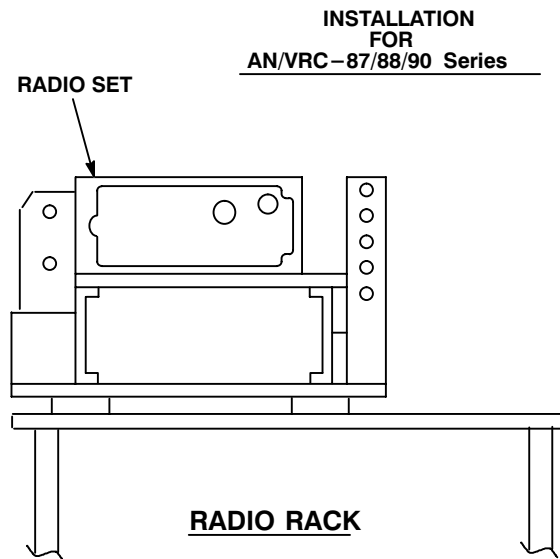

Figure 5-1 (3). MK and Radio Installation: Radio Equipment Locations
**5.1 Installation of Antenna AS-3900/VRC (antenna).** Refer to section 5.1.2 for installing an antenna in the M997 Ambulance. See figures 5-1 (1) and 5-1 (2) for location(s).